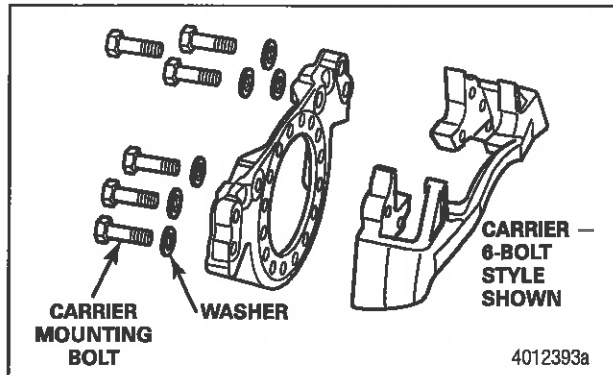

Figure 6
- If one (1) bolt is loose (hand tight) or missing: Use the appropriate kit to replace all of the mounting bolts with new bolts and washers. Proceed to Step 4.
- If more than one (1) bolt is loose (hand tight) or missing: Proceed to the "Caliper and Torque Plate Inspection" procedure in this publication.
- **For Meritor EX+ air disc brakes:** Use a 30 mm-size socket to tighten the carrier mounting bolts to 400 lb-ft (542 N•m). Use the special torque adapter, part number 3256B1354, where needed for access to the mounting bolts. When using the special torque adapter, use the settings shown in Table B for torque compensation. Figure 6. ①
- **For Bendix brakes:** Tighten the carrier mounting bolts to 350-400 lb-ft (475-542 N•m). ①
- **For WABCO PAN-22 brakes:** Tighten the carrier mounting bolts to 270-310 lb-ft (366-420 N•m). ①